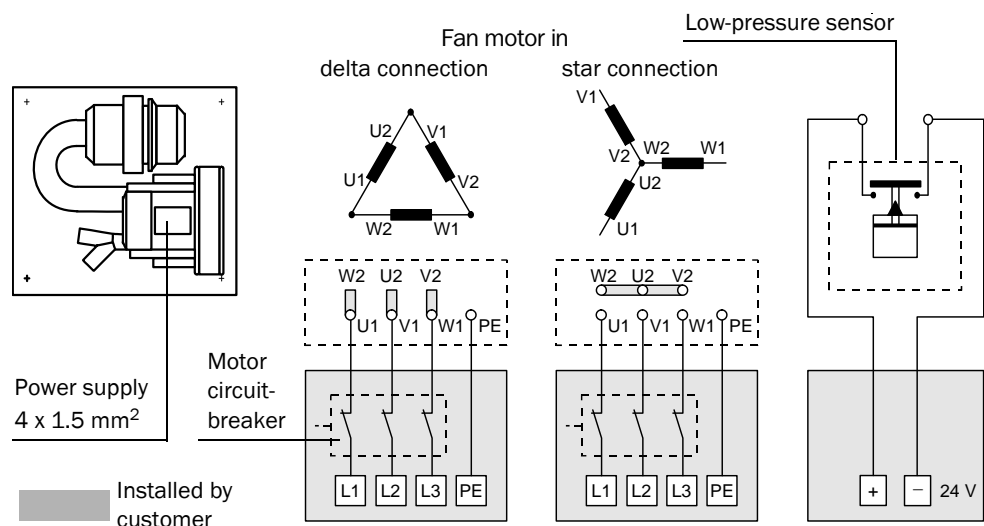

Fig. 3.20: Electrical connections for the purge-air unit
- Connect the power supply cable to the terminals on the purge-air motor (see supplementary sheet on purge-air motor and cover of motor terminal box; see the connection arrangement shown in Fig. 3.20).